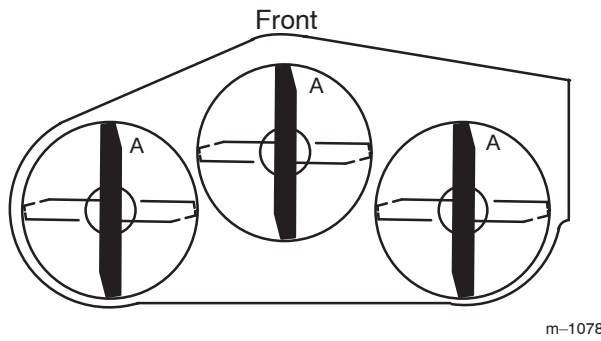
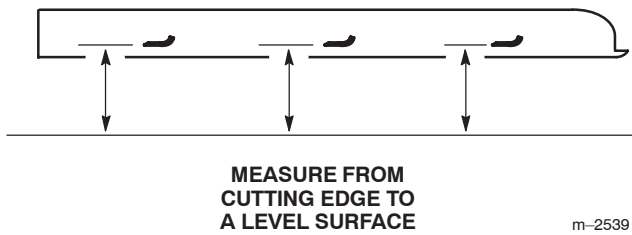

Figure 30
Figure 31
1. Rotate the blades until the ends face forward and backward (Fig. 30). Measure from a level surface to the cutting edge, position A, of the blades (Fig. 31). Note this dimension.